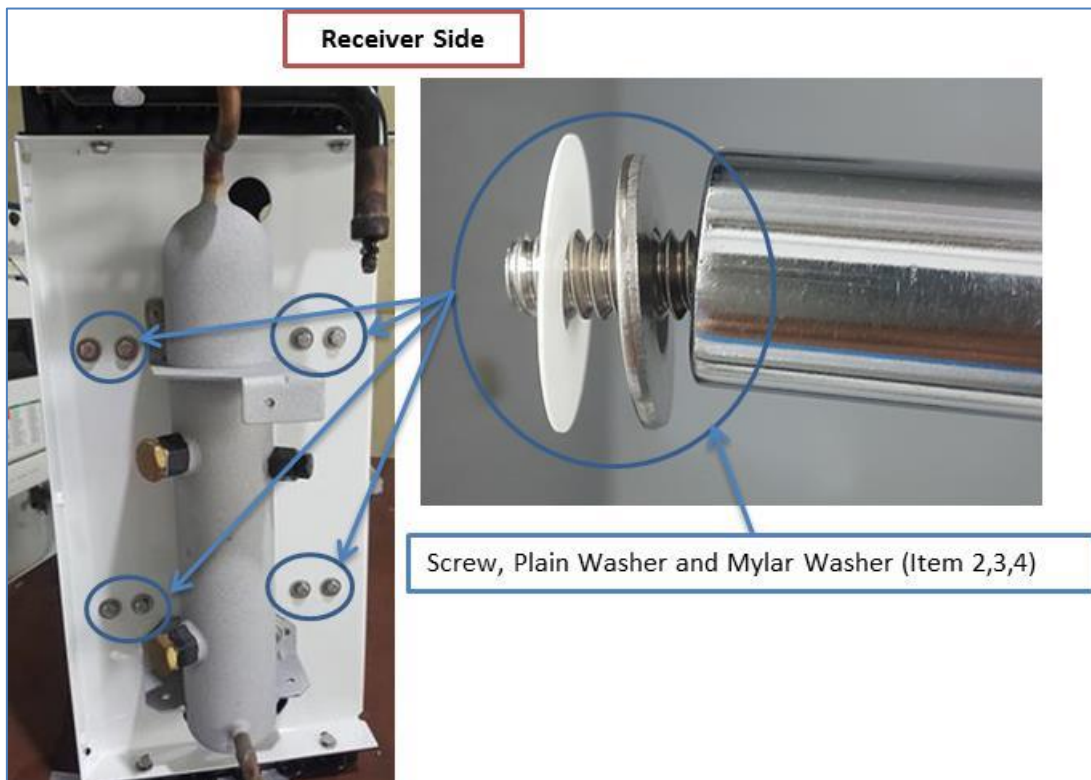

Figure 9
- Insert the bolts, Mylar and washer (Item 2, 3&4) from the receiver side as shown in Figure 9.